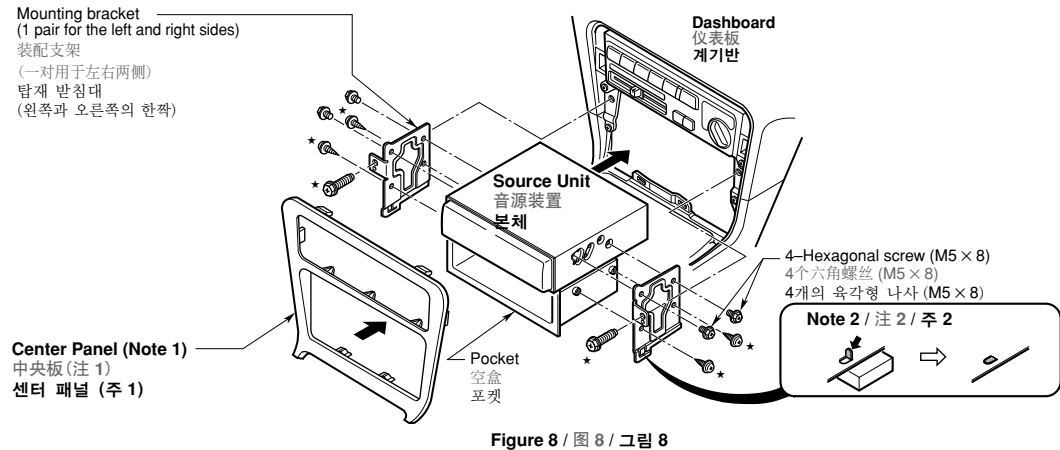

Figure 8 / 图 8 / 그림 8
If the vehicle is equipped with a factory-installed radio, install the source unit with the parts and screws marked (★). (Figure 8)
- Secure the mounting brackets to the chassis as shown in Figure 8. When the source unit is installed without the universal mounting bracket, holes exist; modification, such as drilling new holes, of the mounting brackets may be required for other models.
如果汽车装备有出厂时安装好的收音机，请用带星号(★)的零件和螺丝安装音源装置。（图8）
- 如图8所示，将装配支架固定在底盘上。在不使用通用装配支架的情况下安装主机时，有现成的安装孔。其它车型可能需要改造装配支架，如钻出新孔等。